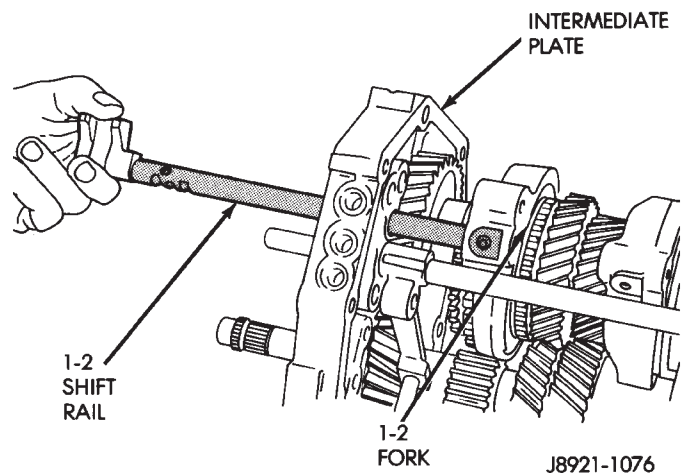

Fig. 92 Installing 1-2 Shift Rail
(8) Install 1-2 shift rail in intermediate plate and 1-2 fork (Fig. 92).
(9) Coat 3-4 shift rail interlock plug with petroleum